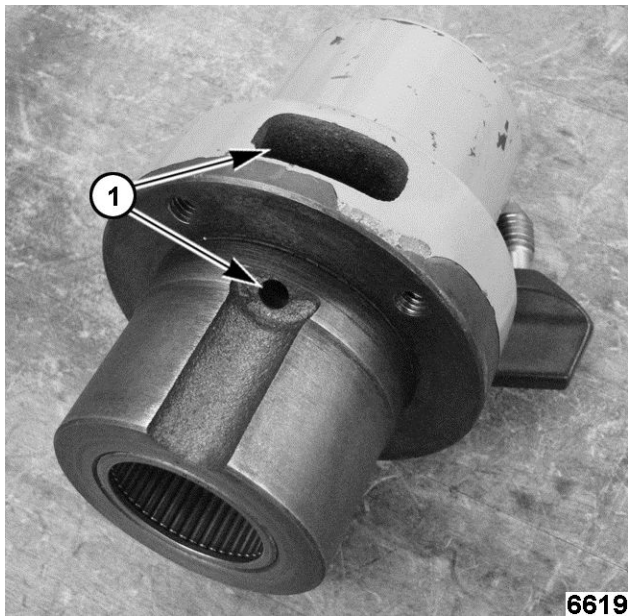

Fig. 81
the hub front opening while looking up into the hub drain hole and locate the edge of the needle bearing. It should not be blocking the oil return cavity. Refer to Fig. 81.
2. Check to be sure the oil inlet (1, Step 4) and drain holes (1, Fig. 81) of attachment hub are open before installing it into the transmission housing.
6. Install attachment hub into transmission housing with drain hole (1, Fig. 81) facing down. Secure with socket head screws.